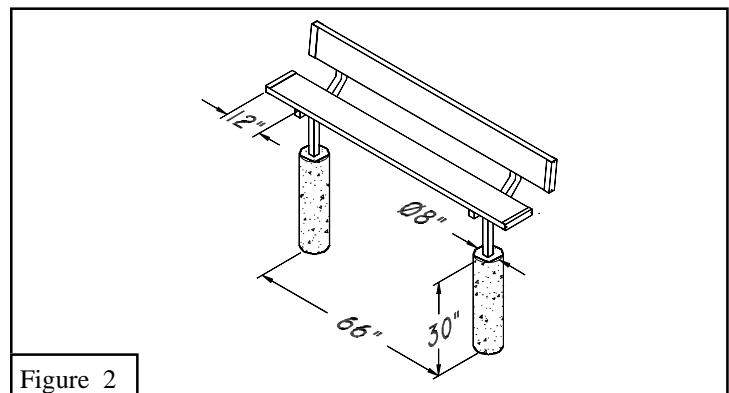

Figure 2
4. Locate and dig two 8" diameter holes 30" deep and 66" apart from center to center. See Figure 2.